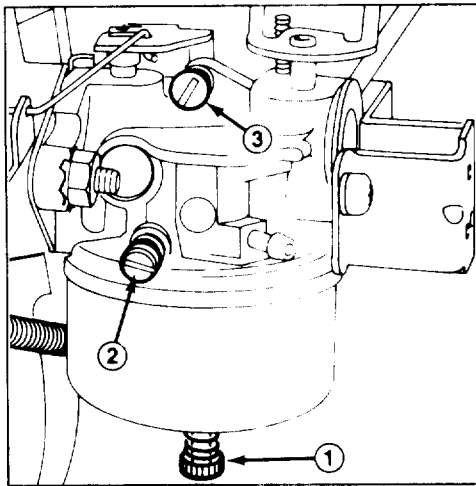

Figure 29
2. Power Adjusting Screw (Fig. 29)—Close screw by gently rotating it clockwise until a slight seating resistance is felt. Next, rotate power adjusting screw one full turn—360°—counterclockwise.
3. Idle Mixture Screw (Fig. 29)—Close screw by gently rotating it clockwise until a slight seating resistance is felt. Next, rotate idle mixture screw 1-1/2 full turns counterclockwise.
5. Rotate power adjusting screw (Fig. 29) clockwise—in—1/8 turn at a time until engine misses because of a lean gasoline mixture. Then rotate screw counterclockwise—out—1/8 turn at a time until engine runs unevenly because of a rich gasoline mixture. Next, rotate power adjusting screw clockwise, back to the midpoint between the rich and lean settings, so engine runs smoothly.
7. Rotate idle mixture screw (Fig. 29) clockwise—in—1/8 turn at a time until engine begins to miss because of a lean mixture. Then rotate screw counterclockwise—out—1/8 turn at a time until engine runs unevenly because of rich mixture. Next, rotate idle mixture screw clockwise, back to the mid-point between rich and lean settings.
8. Again, rotate idle speed screw (Fig. 29) until engine idles at 1750 rpm.